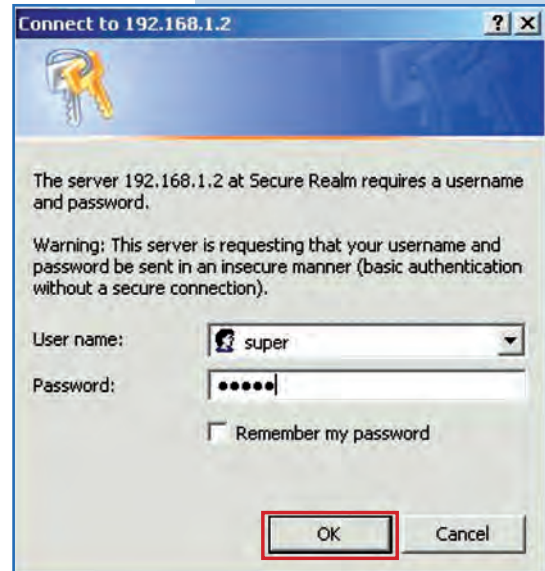

Figure 3g
- g. The equipment will request a user and a password. The LP-288ai has two user levels, one with all the privileges, which is **super** by default with **super** as password, and another one with fewer privileges with **admin** as user and **admin** as password. Type **super** in user and password and select **OK**, as shown in **Figure 3g**.